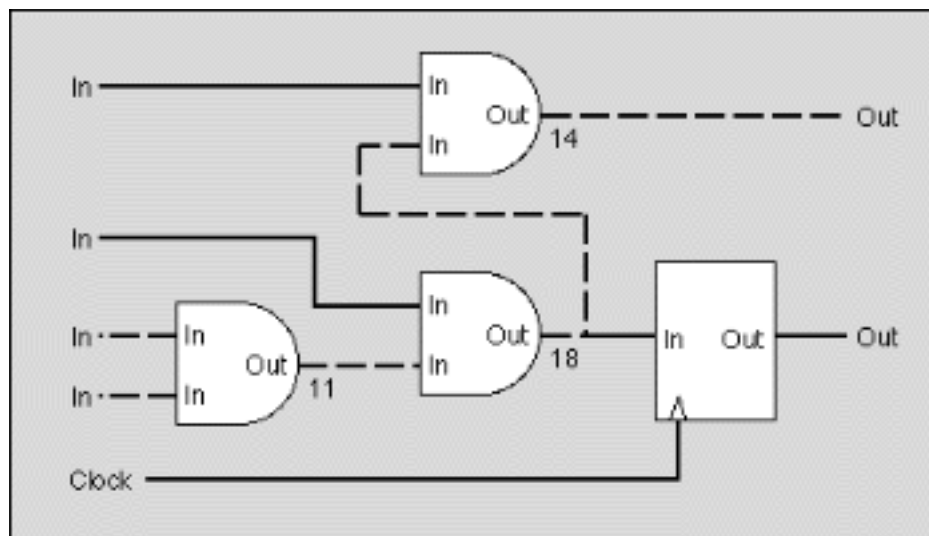

Figure 1: The critical path (dashed line) takes 43ns to settle
- The *signal delay* introduced between two synchronous nodes must be smaller or equal than the clock period so there is enough time for nodes to become stable. In figure 1, the round-ended boxes are asynchronous nodes whereas the square boxes are synchronous nodes. The delay introduced on the dashed path is 43ns and exceeds the given clock period of 30ns.